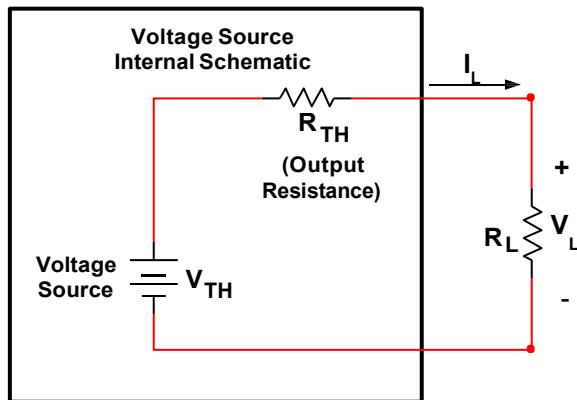

Figure P.2.1 – Circuit to Measure  $R_{TH}$
Consider the circuit setup in **Figure P.2.1** below. We do not know what  $V_{TH}$  or  $R_{TH}$  are inside the voltage source. However, we can attach different size resistors to the voltage source and measure  $I_L$  and  $V_L$  (the usefulness of these measurements will be explained shortly). For five possible values of  $R_L$ , we have measured values for  $I_L$  and  $V_L$  as shown in **Table P.2.1**.
We need a way to relate the data we have collected back to the circuit we have in **Figure P.2.1**. We can easily use KVL to relate the values of  $R_{TH}$  and  $V_{TH}$  (our unknown variables) to  $R_L$  and  $V_L$  (our measured, known variables).
1. For this prelab problem, use **KVL** on the circuit in **Figure P.2.1** to generate an equation for the voltages in the loop in terms of the variables  $V_{TH}$ ,  $R_{TH}$ ,  $R_L$ , and  $V_L$ . For example, using Ohm's law, we know the voltage across the internal source resistor,  $V_{R_{TH}} = R_{TH} \times I_L$ , so we can eliminate  $V_{R_{TH}}$  from our KVL equation.
1. Your KVL equation for the circuit in **Figure P.2.1** and all work getting it to be in  $y=mx+b$  form.
3. Using what you did in Excel, what is the value for  $R_{TH}$  in the circuit in **Figure P.2.1**?